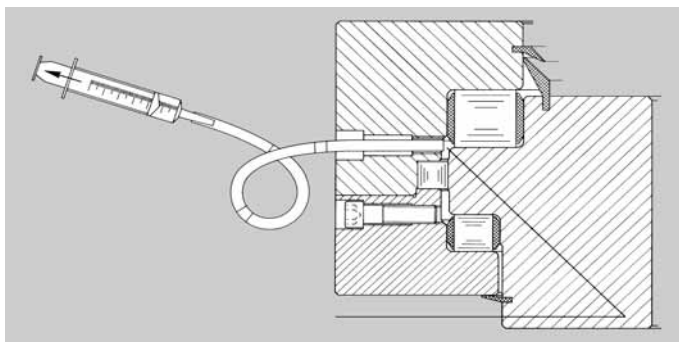

Fig. 7:
- Insert flexible clear plastic tube, which is divided into sections of 120 mm length each and positively connected to the suction system into the borehole up to the raceway area (Fig. 7)